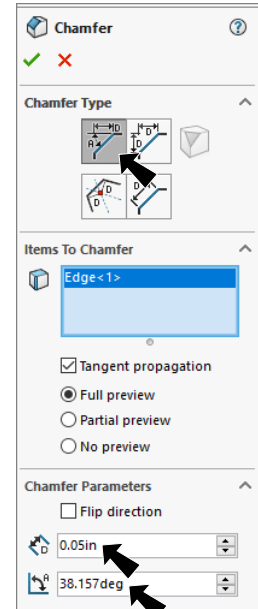

Fig. 11
Step 3. In the Chamfer Property Manager set: under Chamfer Type, Fig. 11